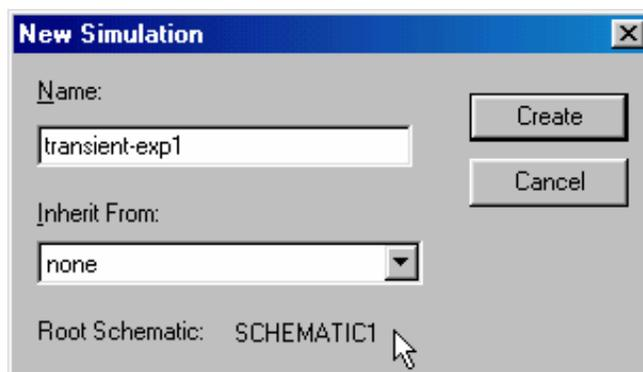

Figure C-8.
- Find the *New Simulation Profile* button in the top toolbar menu and click on it . You will get the window shown in Figure C-8, in which you must give a name to the file where the specifications for the analysis will be stored. Click on the *Create* button when you have chosen the name for your profile.